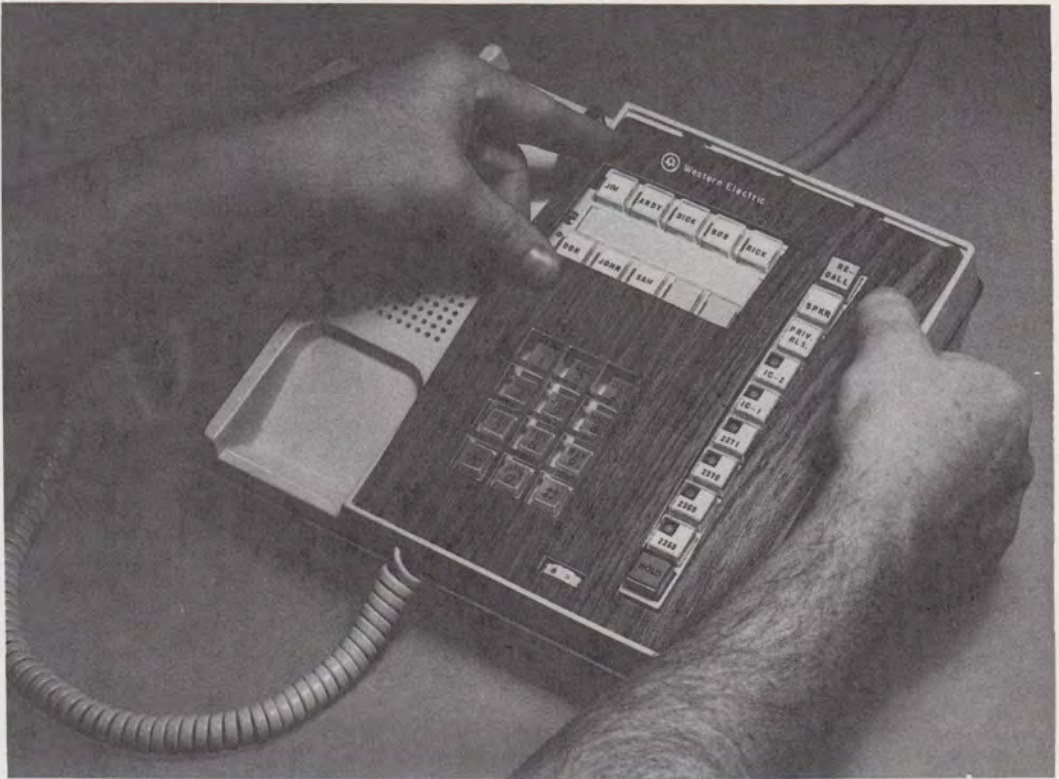

Fig. 11—Replacing Faceplate
- (2) Loosen two captive screws holding DSS key and move key to side.
(3) On a TOUCH-TONE set, move the O-BK lead from terminal 36 to 31; on rotary sets, move the BL-R lead from terminal 28 to 39.
(4) Replace DSS key.
(5) Install faceplate by inserting in slots at bottom of set and bowing it until it will slide in slots at top of set (Fig. 11).
(2) Remove DSS key.
(3) Remove W-BR lead from telephone set terminal 9 and W-G from terminal 38. Insulate and store leads.
(5) Replace faceplate (see Fig. 11).